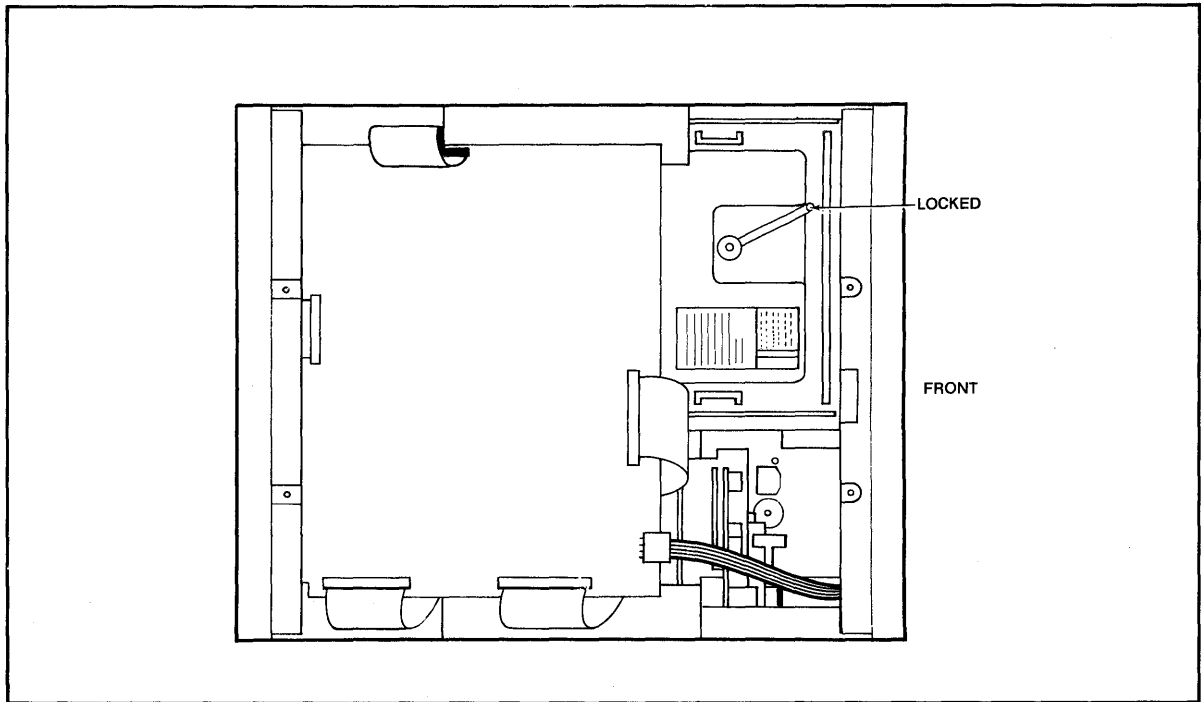

Figure 2-4 Hard Disk Locking Lever in the Locked Position
2. Find the hard disk locking lever (shown in Figure 2-4) in the locked position.